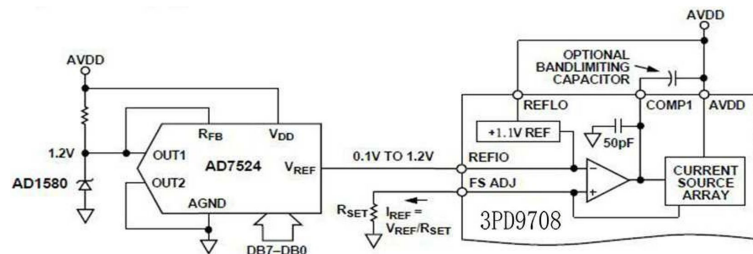

Figure 15. Single-Supply Gain Control Circuit
$I_{REF}$  can be varied for a fixed  $R_{SET}$  by disabling the internal reference and varying the common-mode voltage over its compliance range from 1.25 V to 0.10 V. REFIO can be driven by a single-supply amplifier or DAC, allowing  $I_{REF}$  to be varied for a fixed  $R_{SET}$ . Since the input impedance of REFIO is approximately 1 MW, a simple R-2R ladder DAC configured in the voltage mode topology may be used to control the gain. This circuit is shown in Figure 15 using the AD7524 and an external 1.2-V reference, the AD1580. Note, another 3PD9708(E) can also be used as the gain control DAC because it can also provide a programmable unipolar output up to 1.2 V.